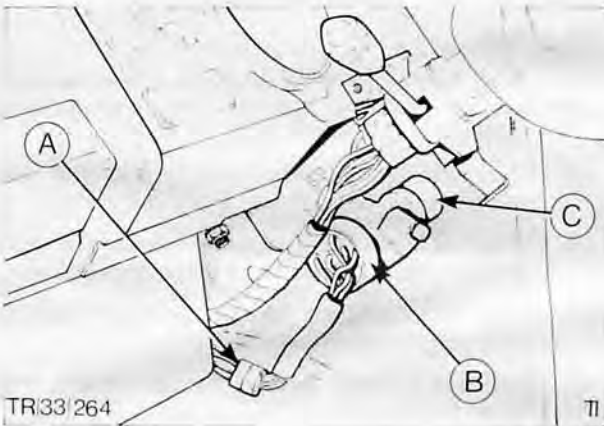

Fig. 32. Switch assembly
7. Connect ignition switch to loom at multi-plug, Fig. 32.